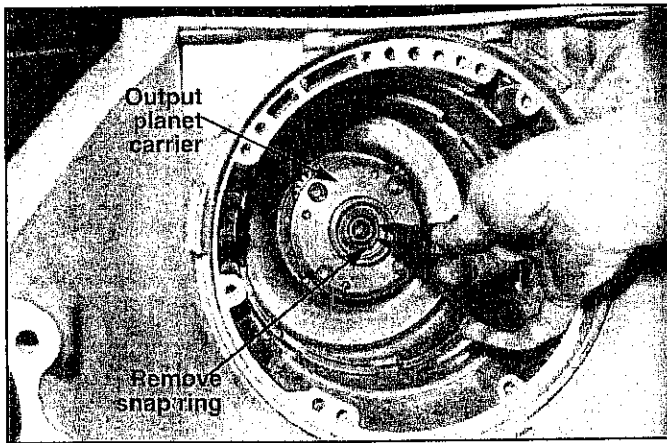

FIGURE 11
STEP 18. Remove the output planet carrier snap ring with a pair of snap ring pliers. (See Fig. 11) Remove the output planet carrier. Set the ring in the oil pan. Set the carrier aside.